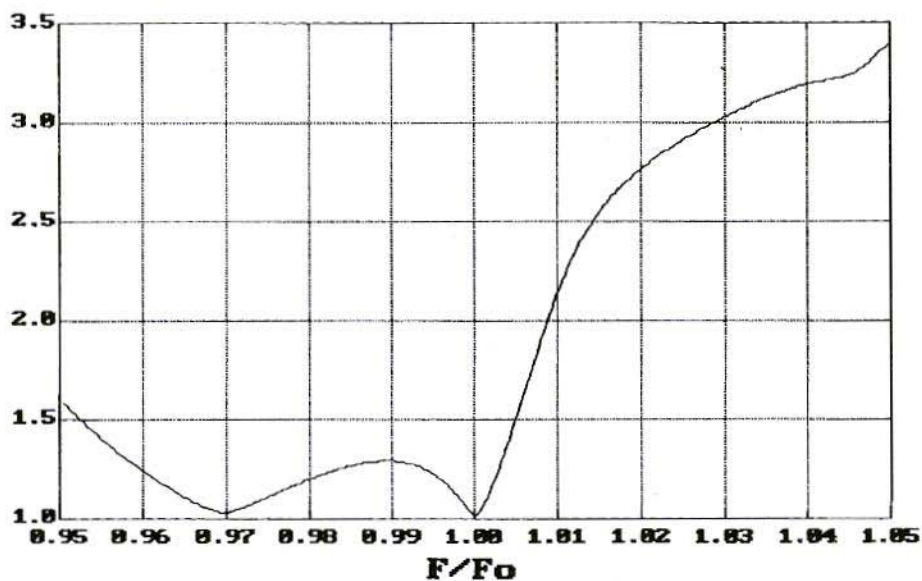

Fig.4
**In addition, in Fig. 4 on p. 107:**
0.95, while the minimum of  $-161 \Omega$  (capacitive) is at  $f = 1.008$ . The reactance is less than 10% of the desired  $300 \Omega$  input resistance from  $f = 0.963$  to  $1.002$  (3.9%). For practical purposes, the Yagi is resonant over this entire range of frequencies. Of course, the most important antenna impedance parameter is SWR, which is plotted in Fig.4. At the lower band edge, the SWR is just over 1.5. It is below 1.5 from  $f = 0.953$  to  $1.005$ , yielding a 1.5:1 SWR bandwidth of 5.2%. The 2:1 SWR bandwidth is more than 5.9%, which is quite good.